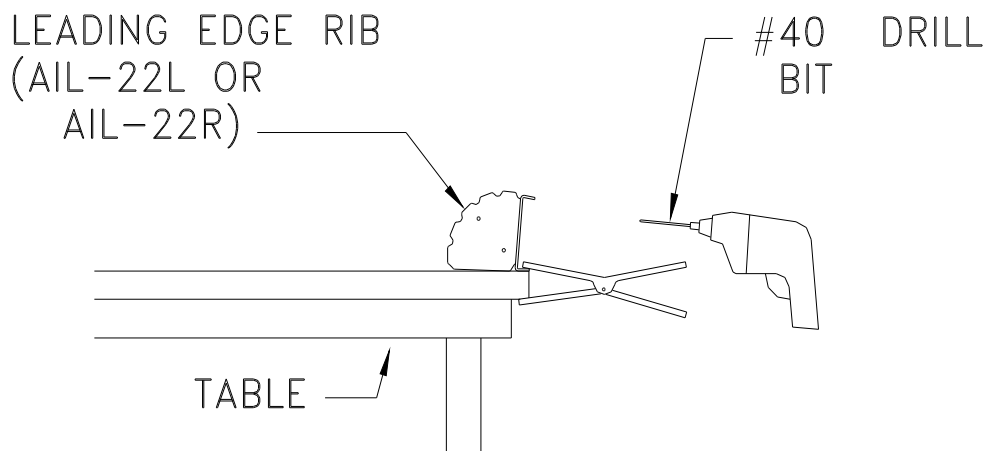

Figure 7.2.3
- 4) Place a Leading Edge Rib (AIL-22L or AIL-22R) in front of the spar as shown in figure 7.2.3. End ribs must be flush with the ends of the spar. Make sure you can see the line you drew on the rib when looking through the factory punched holes in the spar.